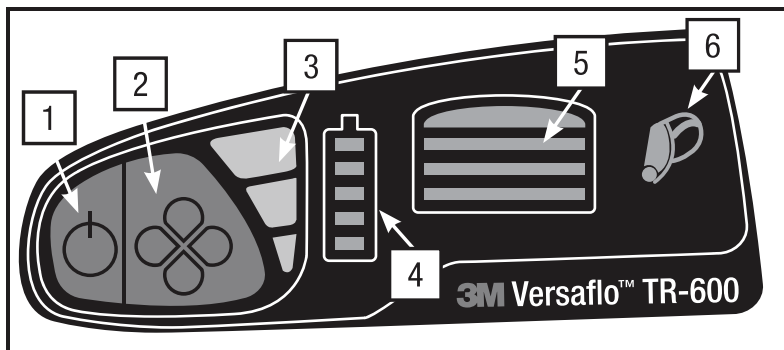

Fig. 13 Motor/blower User Interface
- Insert the filter/cartridge into the filter cover ensuring the bottom latching tab snaps into place (Fig. 4-4). The filter/cartridge label must be visible in the cover window (Fig. 13).